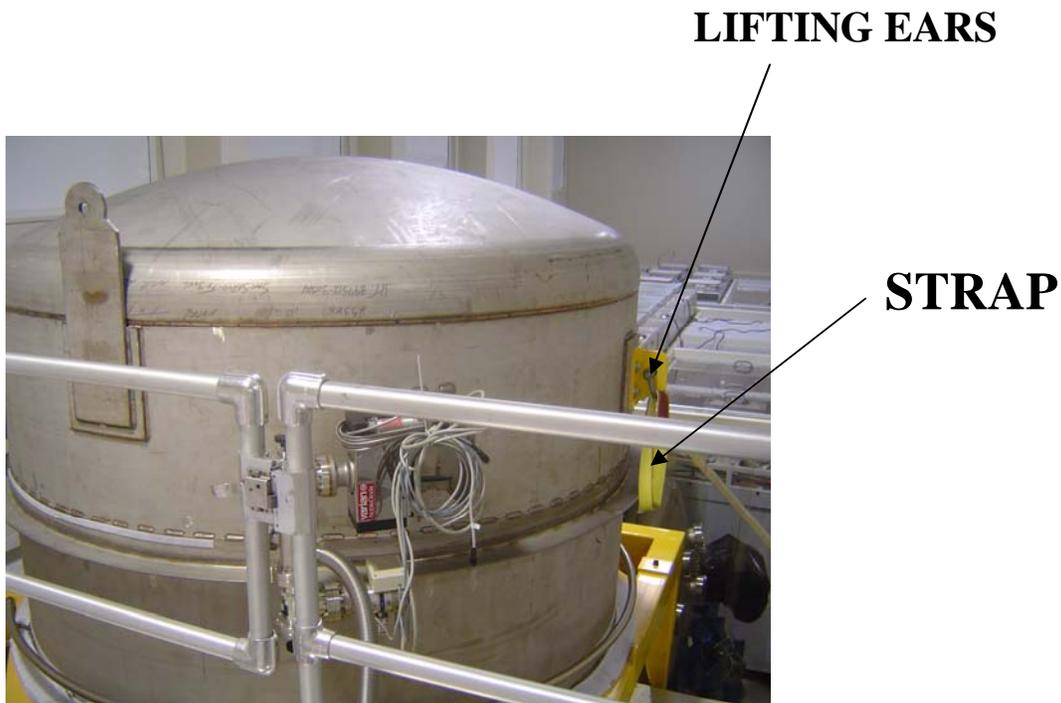

FIG. 1
1. Remove the (48) bolts holding the dome to BSC chamber.
2. Attach both 2.5 ton hoists to lifting ears using lifting straps rated for 4000 lbs or greater (fig. 1).